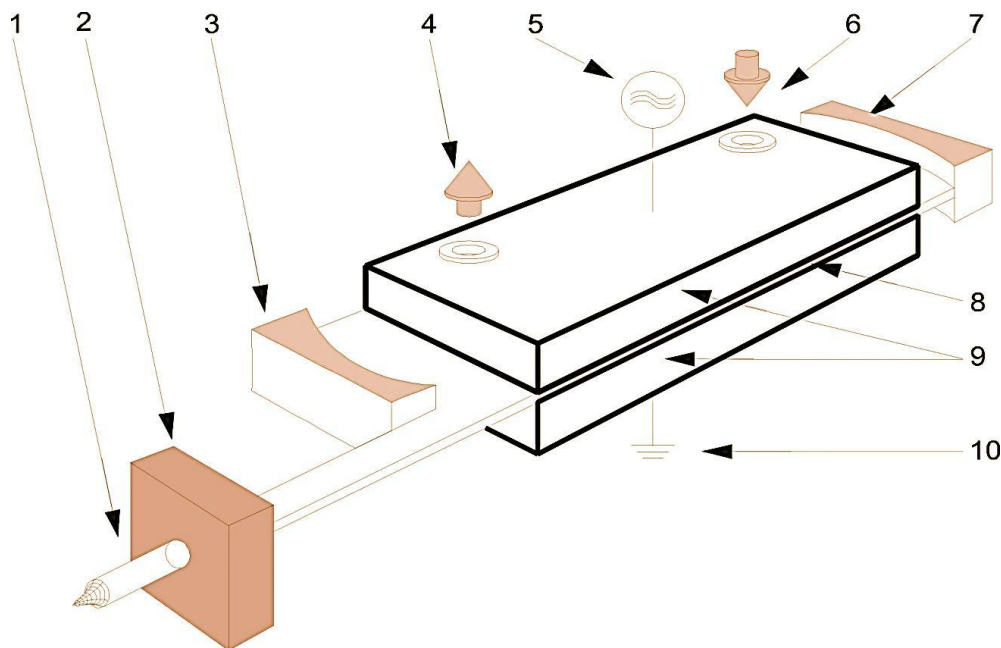

Figure 13 Diffusion Cooled Slab Laser Layout
Figure 13 shows the principle of operation of the Slab laser. A laser gas discharge (active zone) (8) is established between the wave-guiding electrodes (9) by a radio frequency voltage (5, 10). The rear mirror (7) and output mirror (3) form the optical resonator. The laser beam (1) is produced within the resonator and is emitted through a window (2). Water (4, 6) is used to cool the electrodes